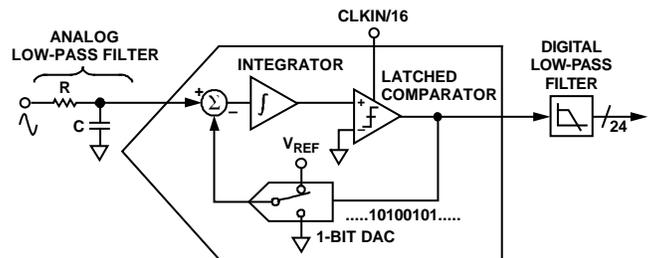
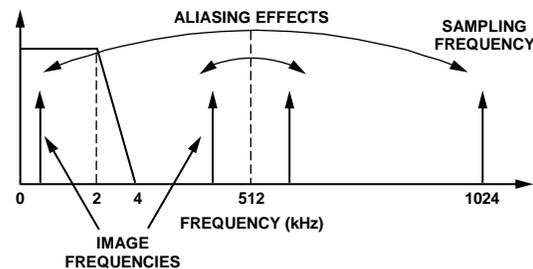

Figure 31. First-Order  $\Sigma$ - $\Delta$  ADC
Figure 33. Aliasing Effects
For simplicity, the block diagram in Figure 31 shows a first-order  $\Sigma$ - $\Delta$  ADC. The converter is composed of the  $\Sigma$ - $\Delta$  modulator and the digital low-pass filter.
Figure 31 shows an analog low-pass filter (RC) on the input to the ADC. This filter is placed outside the ADE7854A/ADE7858A/ADE7868A/ADE7878A; its role is to prevent aliasing. Aliasing is an artifact of all sampled systems, as shown in Figure 33. Aliasing means that frequency components in the input signal to the ADC, which are higher than half the sampling rate of the ADC, appear in the sampled signal at a frequency below half the sampling rate. Frequency components above half the sampling frequency (also known as the Nyquist frequency, that is, 512 kHz) are imaged or folded back down below 512 kHz. This happens with all ADCs regardless of the architecture. In the example shown, only frequencies near the sampling frequency, that is, 1.024 MHz, move into